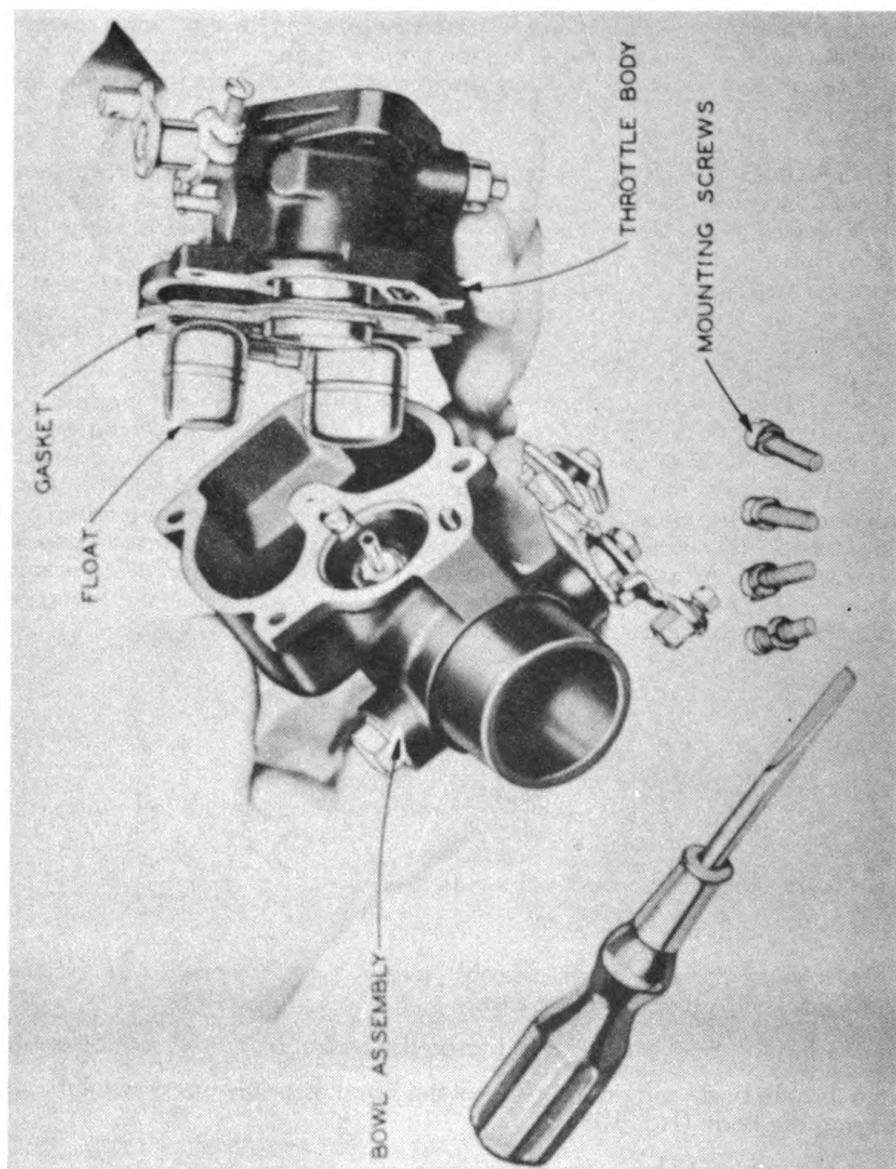

Fig. 103
2. Remove idling adjusting screw (6) and spring
5. Lift the throttle body and gasket clear of the bowl assembly being careful to avoid damaging the float. (Fig. 103)
6. Remove the venturi (1).
23. Place the venturi (1) in position in the throttle body.
24. Place the bowl assembly in position on the throttle body being careful to avoid damaging the float. (Fig. 103)
26. Install idling adjusting screw (6) and spring.
**NOTE:** As a preliminary adjustment, set the idling adjustment (6) and the main jet adjustment at one full turn open and adjust the throttle stop screw to hold the throttle just slightly open.